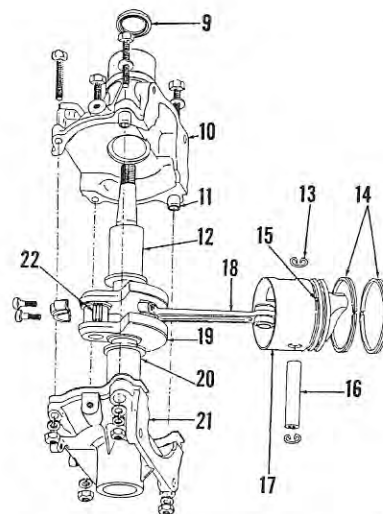

Fig. Mc10 — Exploded view of crankshaft, crankcase and associated parts. Refer also to Fig. Mc7.
Fig. Mc7—Exploded view of power head. Reed valve assembly (2), cylinder (5) and head (8) are shown detached from crankcase. Refer to Fig. Mc10 for crankcase and crankshaft assembly.
CONNECTING ROD, CRANKSHAFT AND CRANKCASE. Refer to Fig. Mc10. Before detaching connecting rod from crankshaft, make certain that rod and cap are properly marked for correct assembly.
To remove the crankshaft, remove the bolts connecting the two crankcase halves, and separate the halves. The crankshaft is supported in two renewable bronze bushings (12 & 20—Fig. Mc10). Inspect crankshaft and if crankpin and main journal surfaces are rough, scored, worn, out-of-round, or show evidence of overheating, renew the crankshaft. Renew main bushings if worn. Renew seal (9) and gaskets each time crankcase is disassembled. Crankcase halves are positively located during and after assembly by the ring-dowels (11). All friction surfaces should be lubricated during assembly.